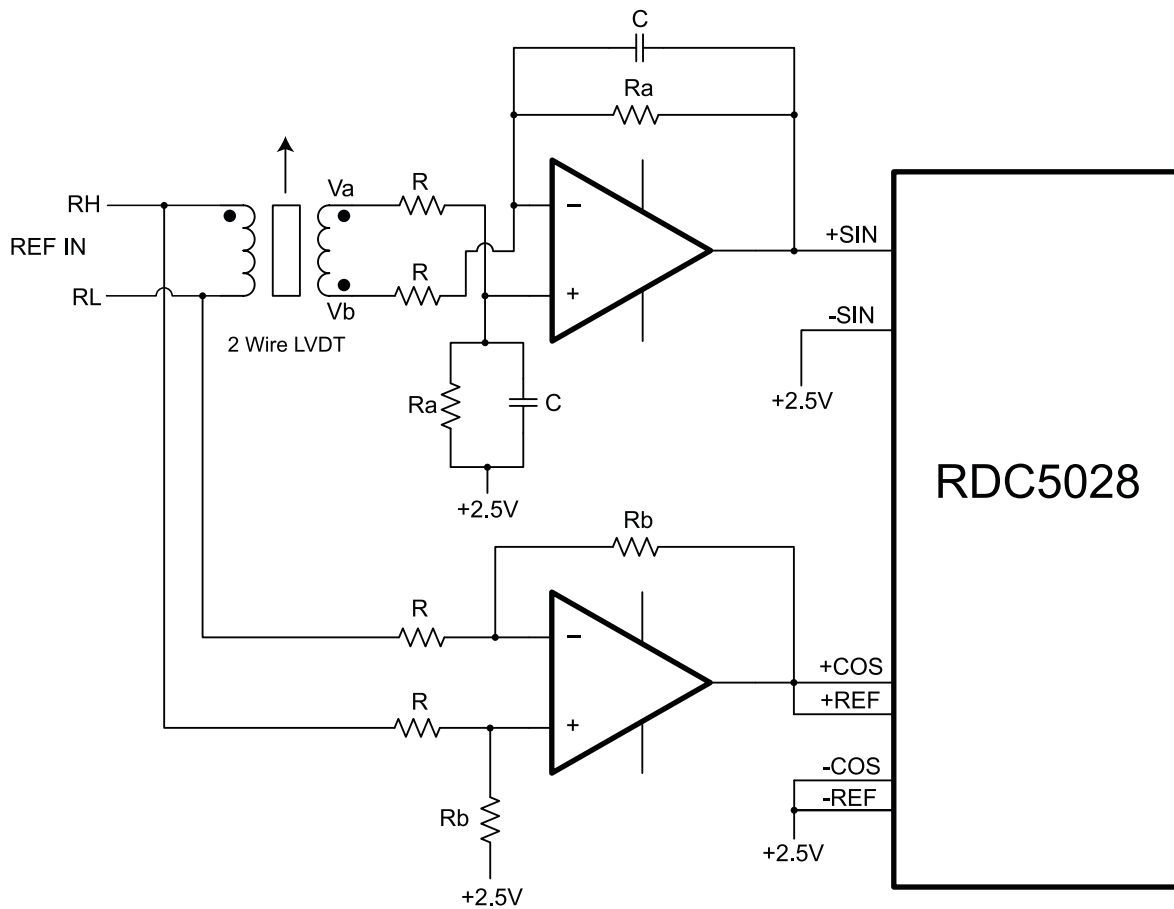

Figure 4 – Two Wire Conditioning Circuit
3. Figure 4 utilizes a two wire LVDT.